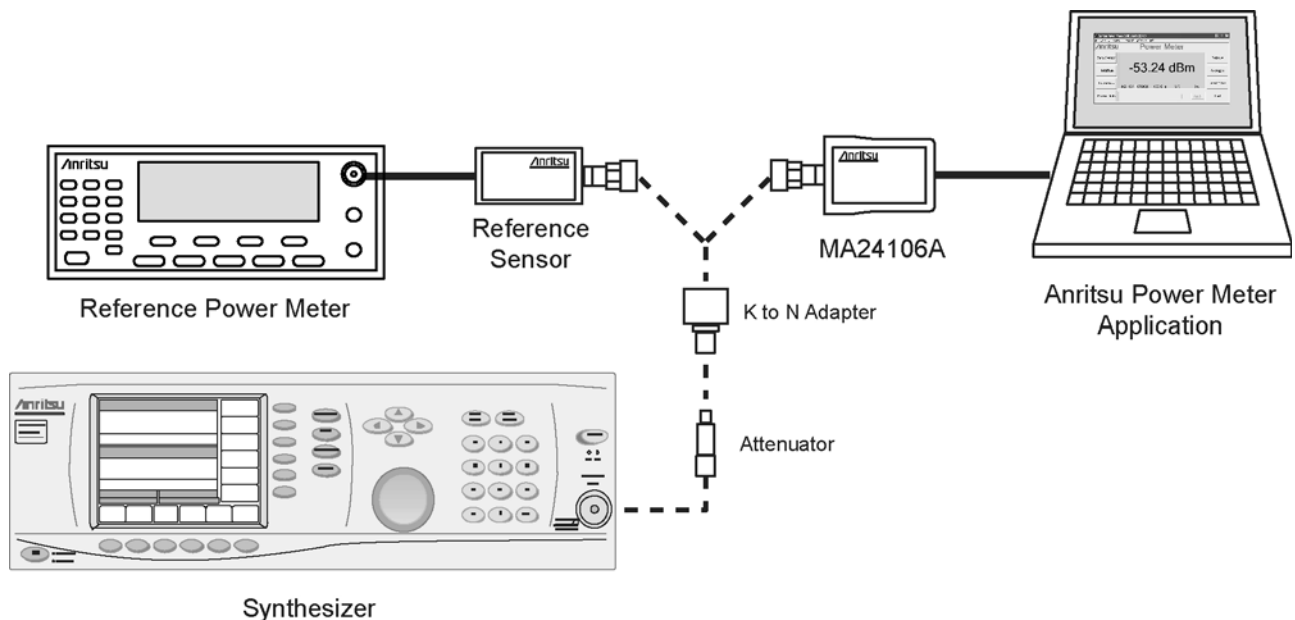

Figure 5-1. Cal Factor Test Set Up
1. Set up the equipment as follows (refer to Figure 5-1 for an illustration):
2. Connect the reference sensor to the synthesizer with the appropriate adapter and attenuator in-line (see Figure 5-1).
5. Disconnect the reference sensor from the synthesizer output and connect the MA24106A power sensor with the appropriate adapter and attenuator in-line (see Figure 5-1).